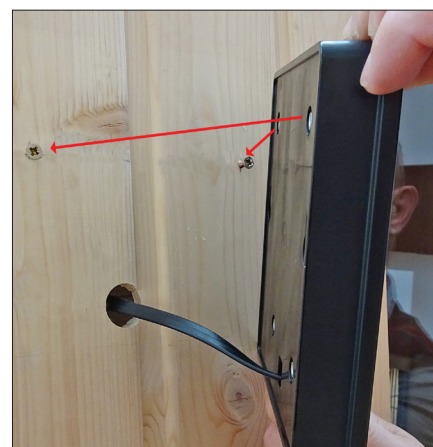

Fig. 3
- VI. Finally, hook the operating unit onto the fixed screws (Fig. 3).